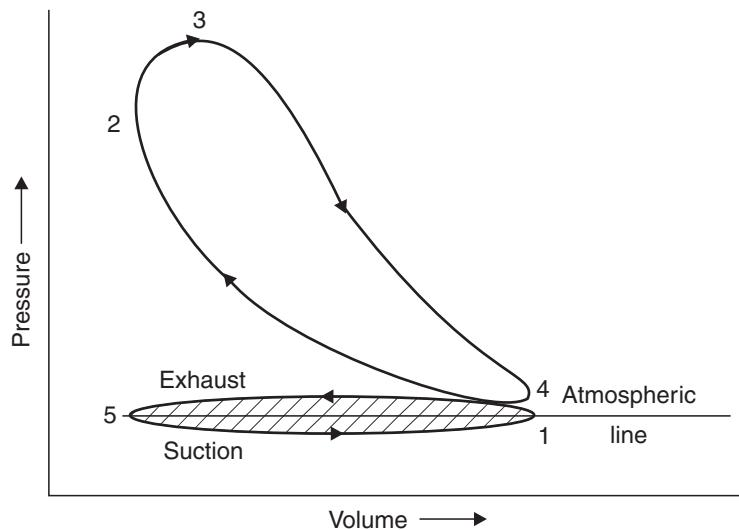

**Fig. 5.35.** Theoretical *p-V* diagram of a four stroke Diesel cycle.
**1. Suction stroke.** With the movement of the piston from T.D.C. to B.D.C. during this stroke, the inlet valve opens and the air at atmospheric pressure is drawn inside the engine cylinder ; the exhaust valve however remains closed. This operation is represented by the line 5-1 (Fig. 5.35).
**2. Compression stroke.** The air drawn at atmospheric pressure during the suction stroke is compressed to high pressure and temperature (to the value of 35 bar and 600°C respectively) as the piston moves from B.D.C. to T.D.C. This operation is represented by 1-2 (Fig. 5.35). Both the inlet and exhaust valves do not open during any part of this stroke.
**3. Expansion or Working stroke.** As the piston starts moving from T.D.C. a metered quantity of fuel is injected into the hot compressed air in fine sprays by the fuel injector and it (fuel) starts burning at constant pressure shown by the line 2-3. At the point 3 fuel supply is cut off. The fuel is injected at the end of compression stroke but in actual practice the ignition of the fuel starts before the end of the compression stroke. The hot gases of the cylinder expand adiabatically to point 4, thus doing work on the piston. The expansion is shown by 3-4 (Fig. 5.35).
**4. Exhaust stroke.** The piston moves from the B.D.C. to T.D.C. and the exhaust gases escape to the atmosphere through the exhaust valve. When the piston reaches the T.D.C. the exhaust valve closes and the cycle is completed. This stroke is represented by the line 1-5 (Fig. 5.35).